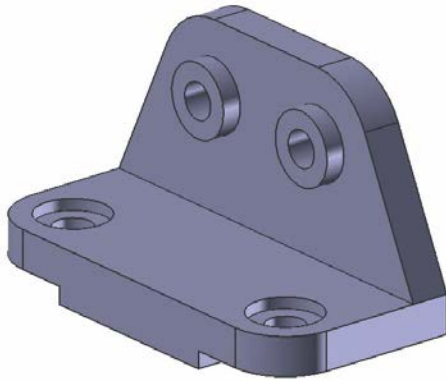

Figure 7-100 Model after mirroring the features
- Mirror the two holes by using the YC-ZC plane, refer to Figure 7-100.
4. Choose the **OK** button from this dialog box; the features will be mirrored. The model after mirroring the features is shown in Figure 7-100.